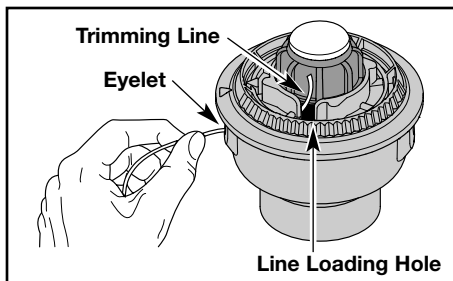

Fig. 14
**NOTE:** Before installing new trimming line onto the existing inner reel, remove any old line from the SpeedSpool by pulling the line out of the line loading or locking holes (Figs. 14 and 15).
2. Insert **10 feet (2.5 m) of .080 in (2.03 mm) trimming line** into one of the two eyelets and push it up through the line loading hole in the inner reel (Fig. 14). Do not bend the line when inserting it into the eyelet.